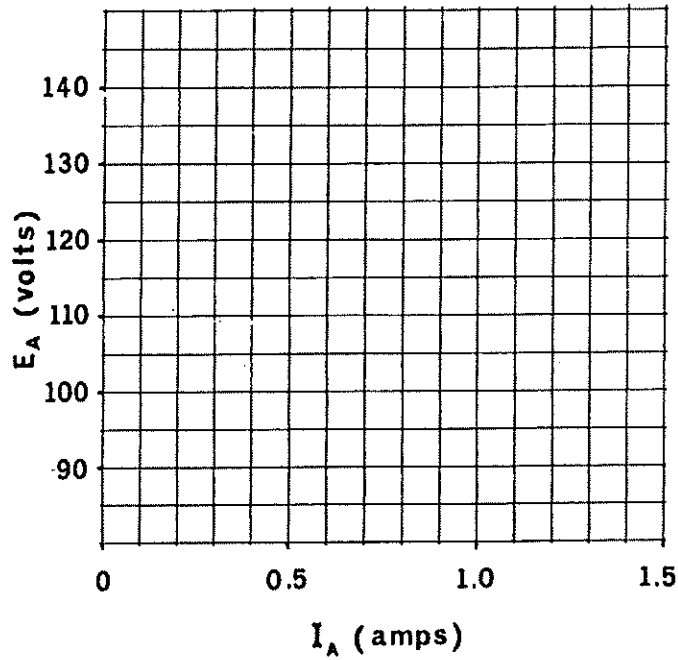

Figure 8-3.
4. Plot the E_A vs I_A regulation curve on the graph of Figure 8-3.